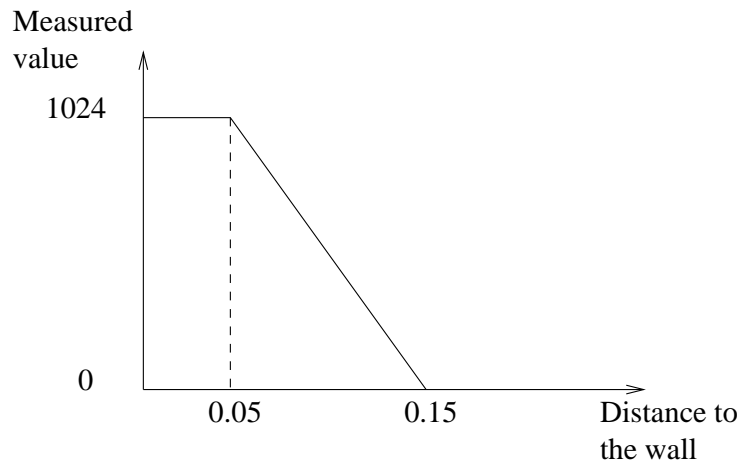

Figure 4.9: Distance measurements of the *kiki* sensors.
7. In the `DistanceSensor` node, you must introduce some values of distance measurements of the sensors to the `lookupTable` field, according to figure 4.9. These values are: